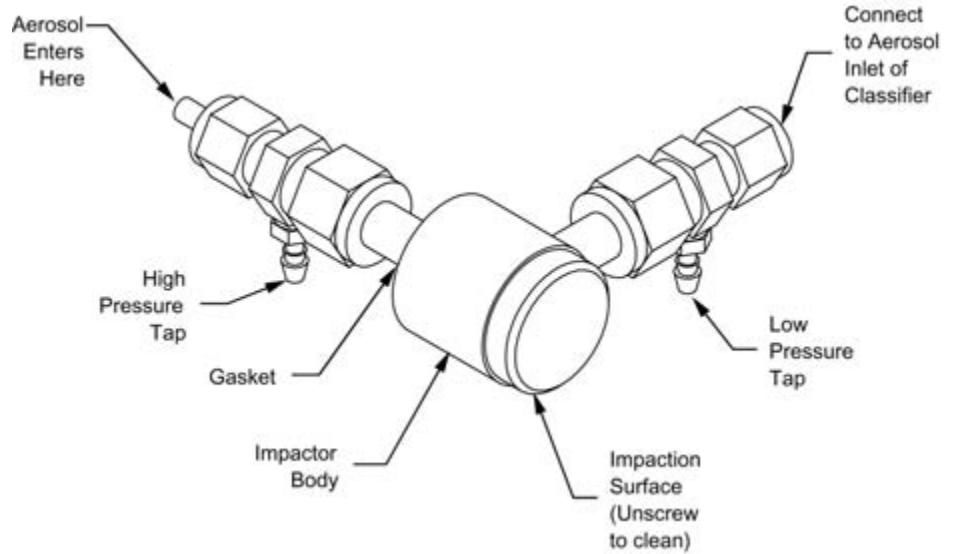
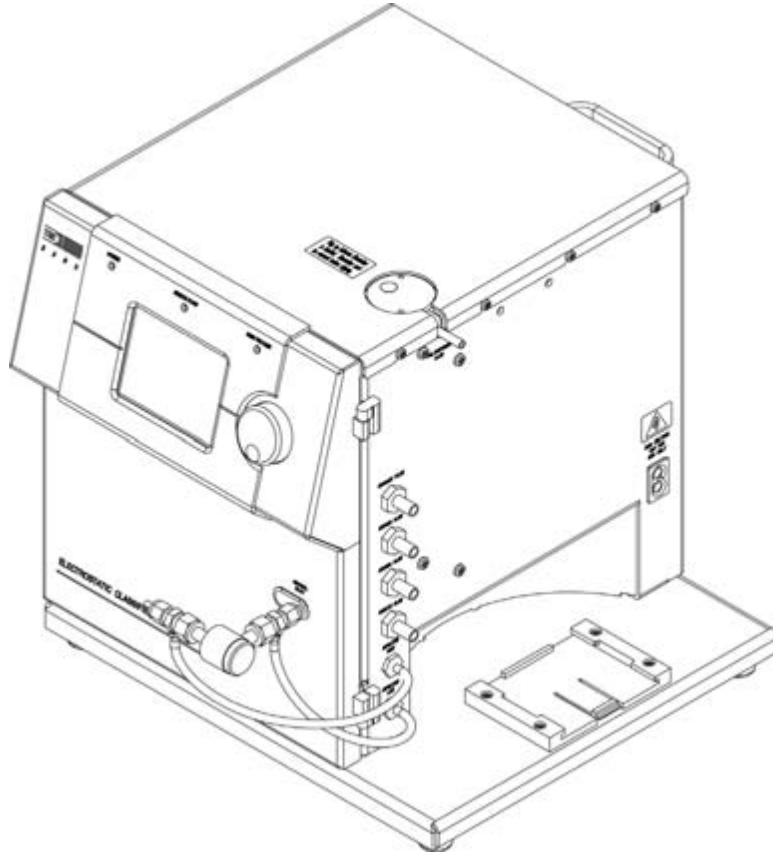

Figure 2-4
Figure 2-5
side of the impactor (fitting with low pressure tap) is attached to the aerosol inlet of Classifier (Figure 2-4).
1. Refer to Figure 2-4 and Figure 2-5. The impactor can be oriented in any direction that is convenient. Simply rotate the pressure tap fittings as needed.